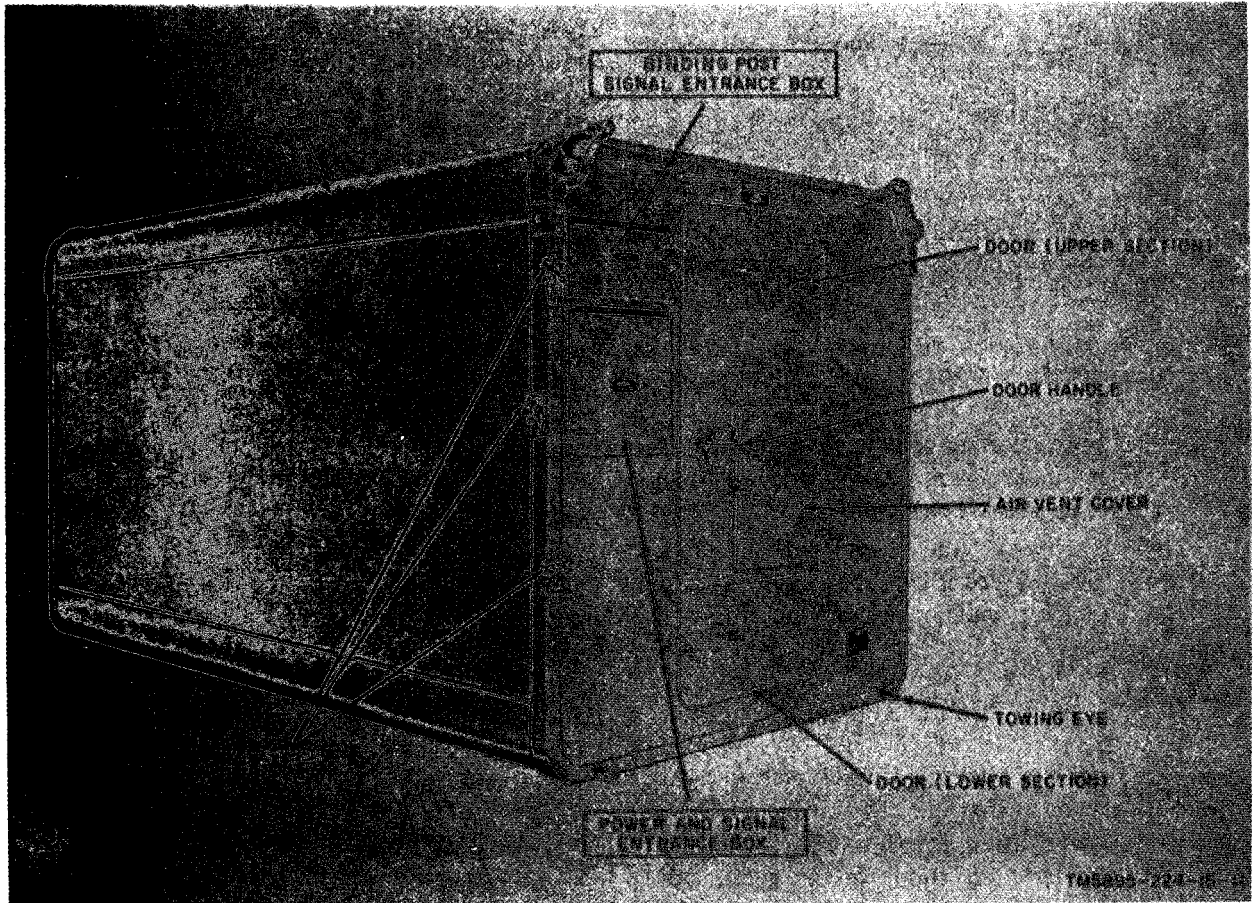
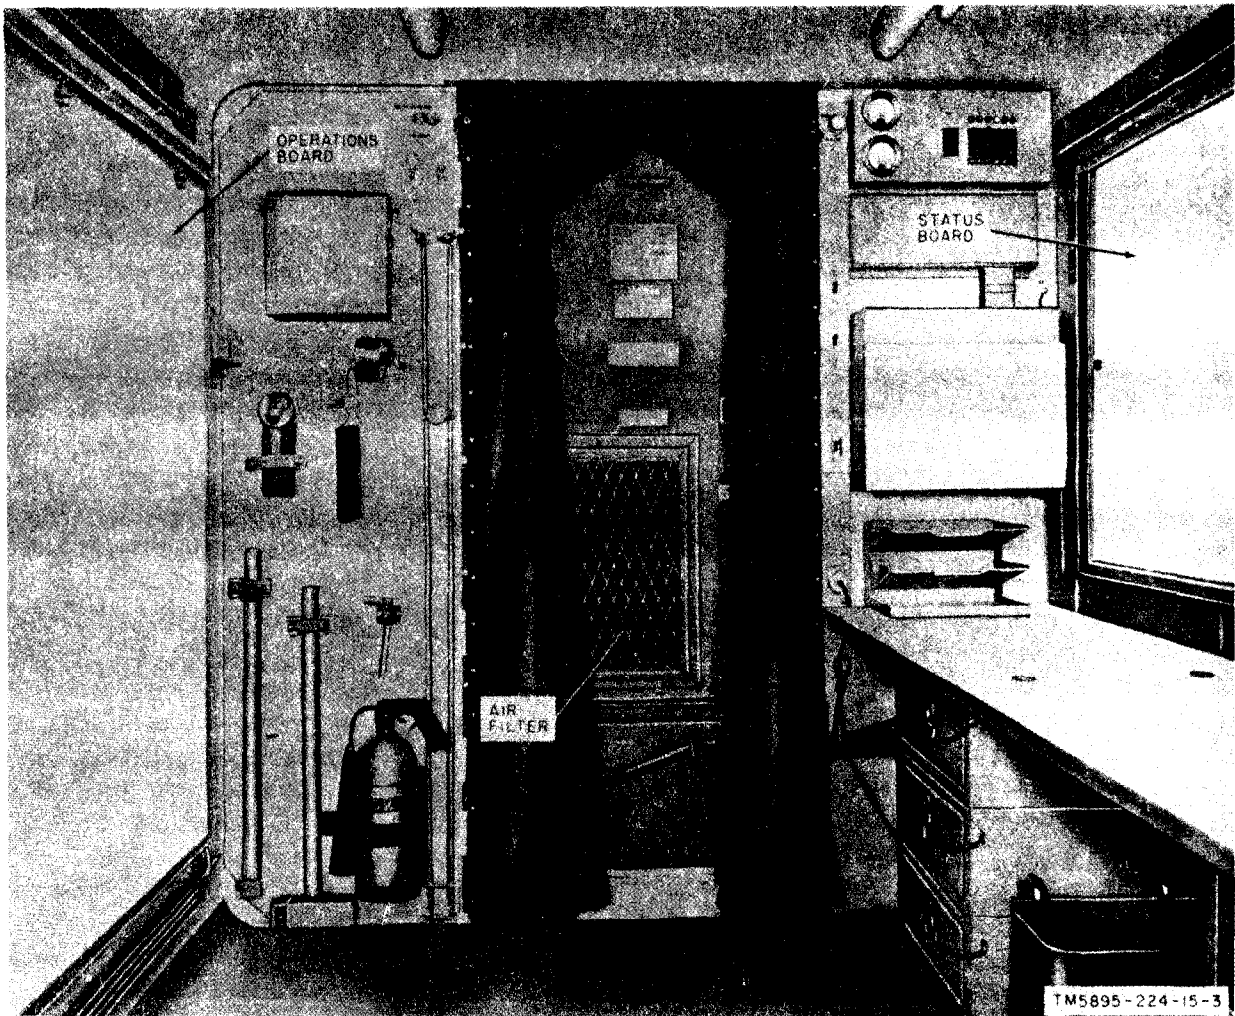

Figure 5. Operations Central AN/MSC-32.
Figure 6. Operations Central AN/MS-32, interior rear view.
The components of Operations Central AN/ MSC-32 (para 5) are housed in Shelter, Electrical Equipment S-184/ MSC-32 (fig. 5). External connections (cable and field wire) are made either at the binding post signal entrance box or at the power and signal entrance box. Alternating-current (ac) power for the shelter must be obtained from a nearby shelter or other local source. Figures 6 and 7 are interior views of the AN/ MSC-32; the location of interior components are shown in figures 11 through 16. The major components of the AN/ MSC-32 are described in paragraph 7 and the shelter components in paragraph 8.
*a. Shelter, Electrical Equipment S-184/ MSC-32* (fig. 5 and 23). The shelter is a component of the AN/ MSC-32 in which all other components (para 5) are installed. All equipment racks and mountings, ac power receptacles, and signal wiring required for mounting and operating the AN/ MSC-32 components are installed in the shelter. Storage areas and installed mounting fixtures are provided for running spares and accessory items. The shelter can be transported by helicopter or truck and is fully insulated, watertight, and airtight. Two lightweight exhaust blower vents, equipped with hinged covers and rain shields (not shown), are on the outside front wall. A two-section door at the rear permits entrance to the shelter. The upper section of the door is used when the AN/ MSC-32 is truck-mounted and the tailgate is up.
- (2) *Entrance boxes.* The power and signal entrance box (fig. 8) and the binding post signal entrance box (fig. 9) are mounted in the exterior wall of the shelter (fig. 5). Each entrance box cover is equipped with